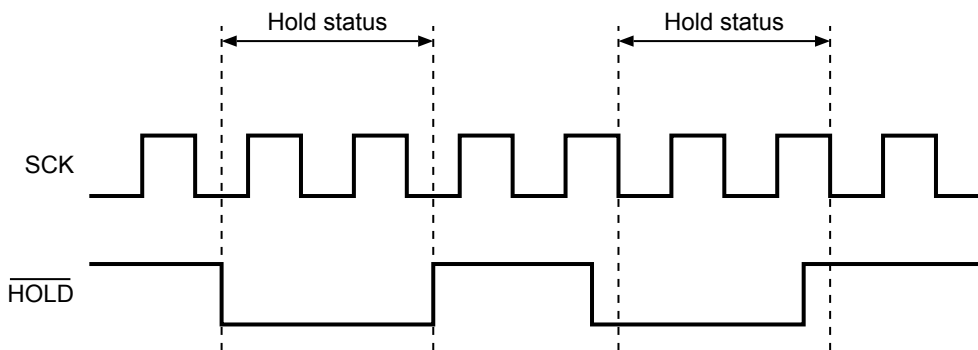

Figure 17 Hold Operation
**Figure 17** shows the hold operation. Set Hold ( $\overline{HOLD}$ ) to “L” when the serial clock (SCK) is in “L”, Hold ( $\overline{HOLD}$ ) is switched at the same time the hold status starts. If setting Hold ( $\overline{HOLD}$ ) to “H”, Hold ( $\overline{HOLD}$ ) is switched at the same time the hold status ends.